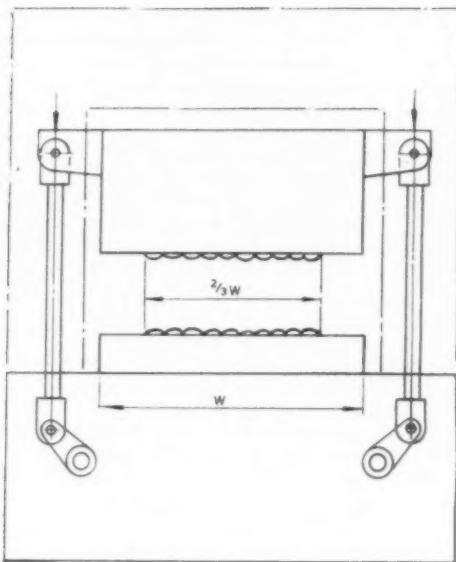

Fig. 11.—The underdrive with little or no frame
- (3) Underdrive with little or no frame. (Fig. 11.)